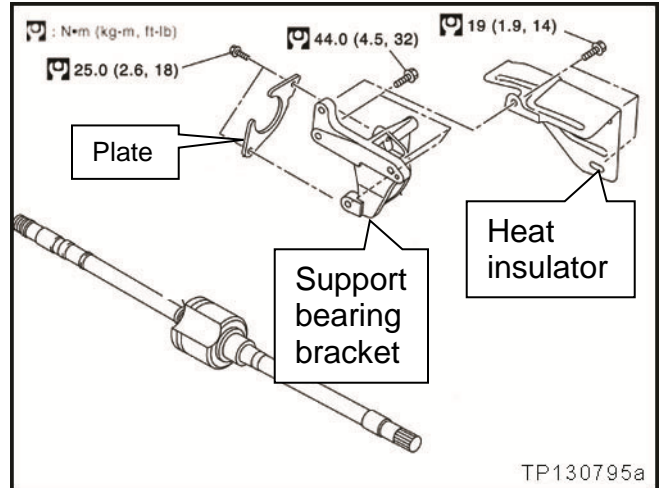

Figure A3
**NOTE:** The plate shown in Figure A3 was removed in the previous step.